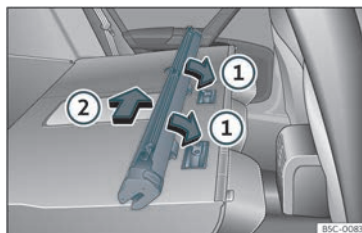

Fig. 133 Assembling the net partition in the rear seat backrests.
- Place the net casing in the rail slots in the direction of the arrows»» **Fig. 133** ①.
- Push the casing towards the left side of the vehicle in the direction of arrow»» **Fig. 133** ② and as far as it will go.
»» Fig. 133 ②.
»» Fig. 133 ①.